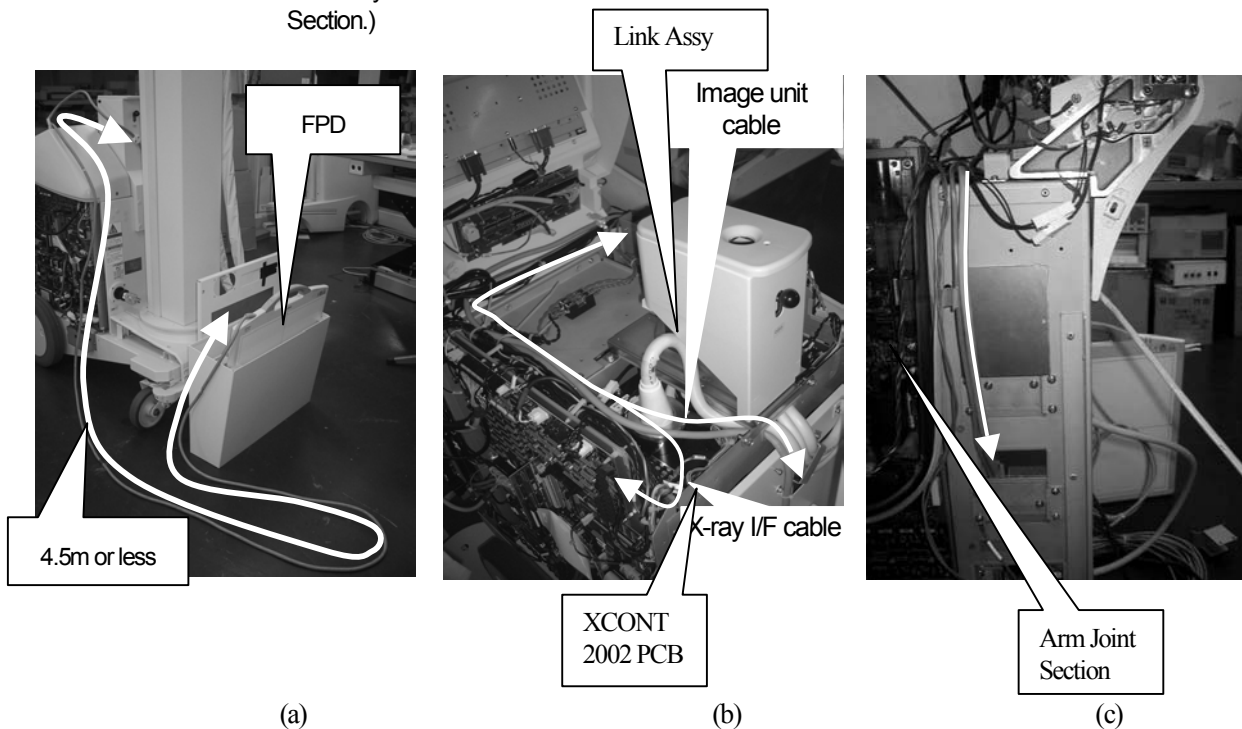

Fig.4-20 Wiring of CXDI-50G
- Fix the sensor cable so that the length between the cover and the FPD is 4.5m or less. (Refer to Fig.4-20 (a).)
- Perform internal cable wiring referring to Fig.4-20 (b),(c). (Arm Joint Section and Link Assy are should be removed once to fix the sensor cable under the Arm Joint Section.)